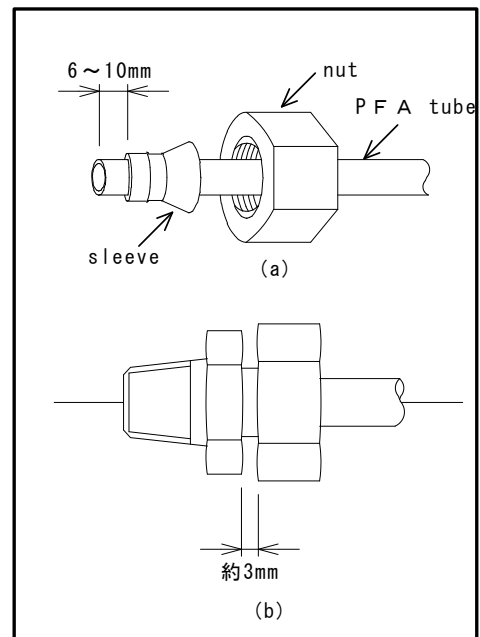

Figure- 26 Piping of filter (EG-3000F)
- (1) After removing the nut, insert a PFA (Teflon) tube into it (refer to Figure-26 (a)).
- (2) Insert the tube into the flare of sleeve installed on the body by pushing it till the stopper.
- (3) Remove the PFA (Teflon) tube with the sleeve and confirm that the tip of tube exceeds from 6 to 10 mm at the sleeve end (refer to Fig.-26 (a)) .
- (4) Put back the tube attached to the sleeve to the joint installed on the monitor.
- (5) Lightly Tighten the nut with fingers.
- (6) Tighten 2 or 2 1/4 turns of the nut with using a wrench so that a thread can not be seen. Refer to Figure-26 (b).
- (7) At this time, between the nut and joint can be a gap of approximately 3 mm.